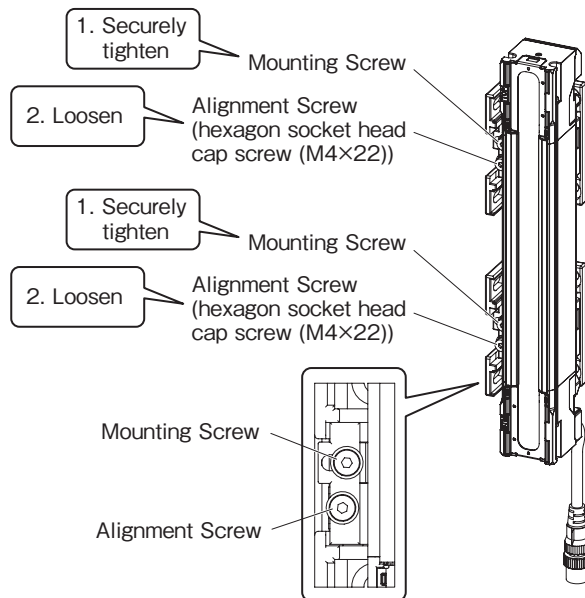

Fig. 3
3. Securely tighten the Mounting Screws to fix the Adjustable Side-Mount Bracket to the yellow area of the sensor housing. The recommended torque to tighten the Mounting Screws is 3.0 N•m. Then loosen the Alignment Screws (hexagon socket head cap screws (M4×22)). (Fig. 3)